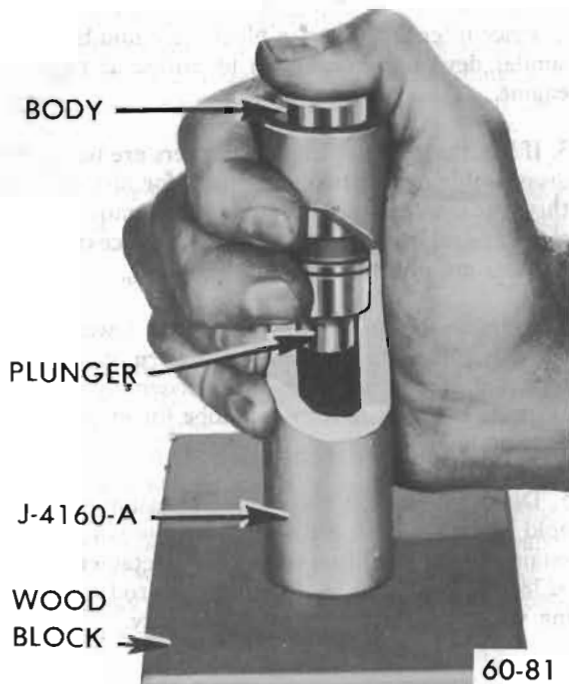

Figure 60-85 - Removing Stuck Plunger
6. If a plunger sticks in lifter body, place lifter in large end of Plunger Remover J-4160-A with plunger inward. While holding lifter with thumb, rap the open end of remover against a block of wood with just enough force to jar the plunger from body. See Figure 60-85.